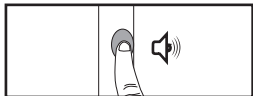

Figure 13.2; Press and Hold Programming Button
Press and hold THIS E-Wand's PROGRAMMING BUTTON again until you hear a SINGLE BEEP (1) [Fig. 13.2]. You have now completed grouping your E-Wands and have created a Twist Group.